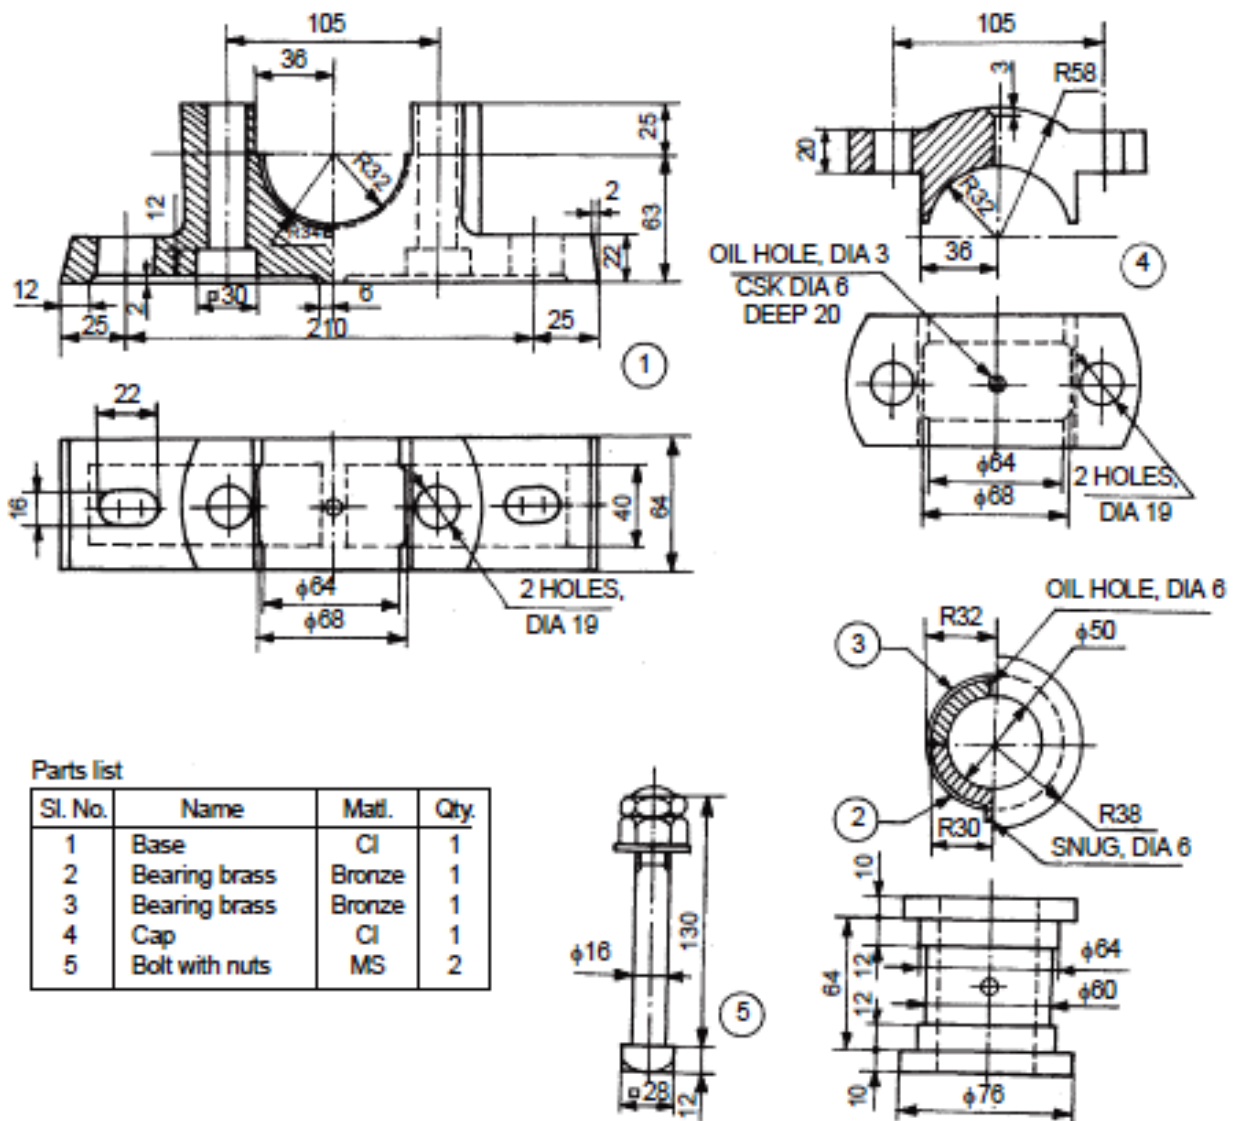

Fig.5
5. Assemble the parts of the plummer block, shown in Fig. 5 and draw the following views: (i) Half sectional view from the front, with left half in section, and (ii) View from above. (**For Batch: 4MB2**)